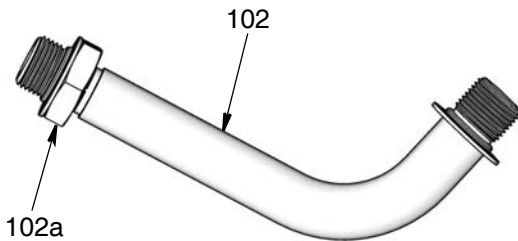

FIG. 4
4. Install extension (102) to meter:
- a. Loosen extension nut (102a) (FIG. 4) until it is completely off tube threads.